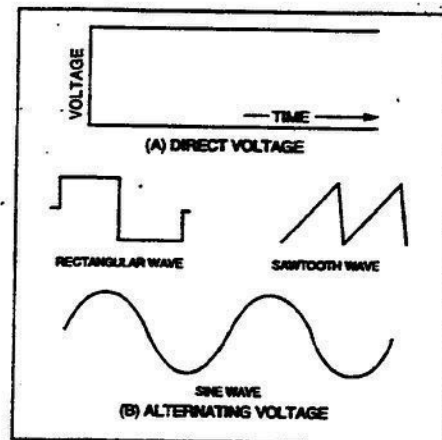

Figure 2-56. Voltage waveforms.
**Current and voltage development.** Many other types of current and voltage exist in addition to direct current and voltage. If a graph is constructed showing the magnitude of DC voltage across the terminals of a battery with respect to time, it appears as in figure 2-56, A. The DC voltage is shown to have a constant amplitude. Some voltages go through periodic changes in amplitude like those
shown in figure 2-56, B. The pattern that results when these changes in amplitude are plotted on graph paper is known as a *waveform*.